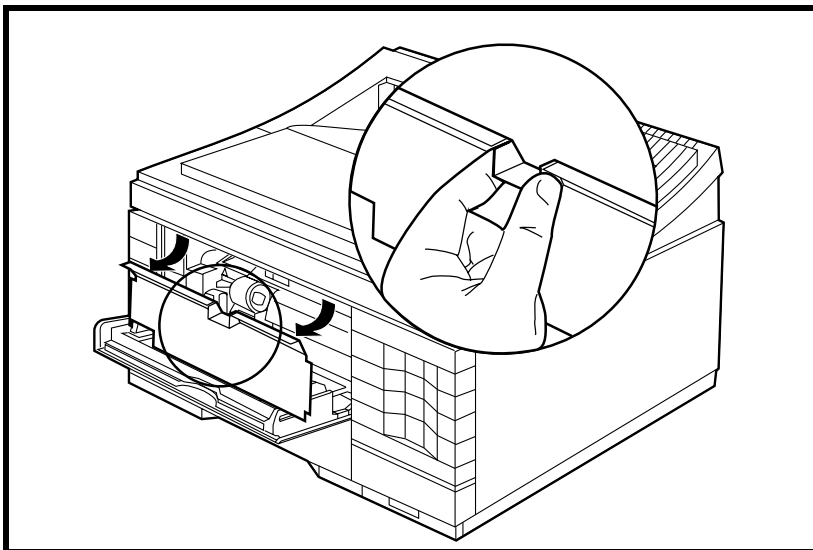

Figure 6-17 **MP Tray Opening Cover**
- 1** Remove the Right Side Cover, the MP opening cover, (see Figure 6-17), the Top Cover and the Left Side Cover, the Font Door Cover, and the PC tray (Tray 2). The MP tray need not be removed, but is shown removed for clarity.